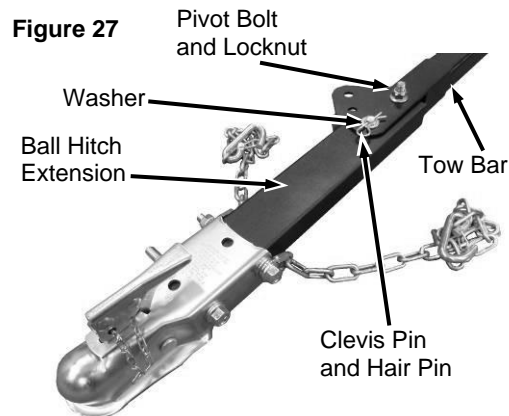

Figure 28
7. Secure the Ball Hitch Extension from the kit to the Tow Bar using the Pivot Bolt and Locknut you removed in the last step (**Figure 28**).